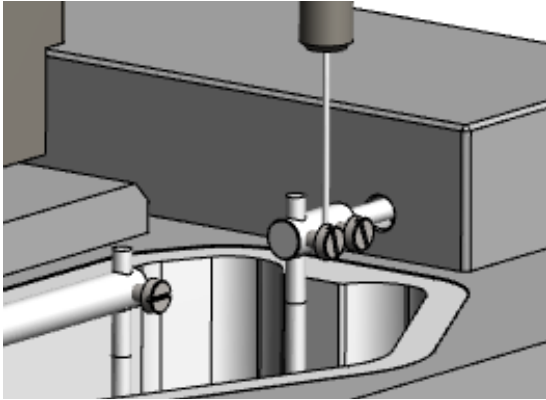

Figure 3.2 - Illustration of the proper placement of the T-balance pin for calibration.
2. Set up the calibration kit (bridge and T-balance) on one of the Myograph chambers as illustrated in figure 3.1. Make sure that the T-balance pin does not touch the mounting support. The pin should be as close as possible to the mounting support without touching in order to get the most accurate calibration (see figure 3.2 and 3.3). Press NEXT STEP when the calibration kit has been properly placed.
When the system reaches target temperature, adjust the calibration kit so that the tip of the T-balance pin is as close to the mounting support on the transducer side as possible without touching, as illustrated in figure 3.2. One way to do this is to use the following technique. Start with the calibration kit in place so that the T-balance pin of the bridge with the pans is not touching any part of the support. Go to the main menu displaying the forces, and zero the channel being calibrated so the force reads zero. Slowly and gently slide the calibration kit forward toward the micrometer so that the T-balance pin rests on the support, creating a force reading on that channel. Carefully slide the calibration kit back toward the transducer slowly until the force reads zero or very close to zero. As soon as the force reads zero, the T-balance pin will be properly placed for force calibration.